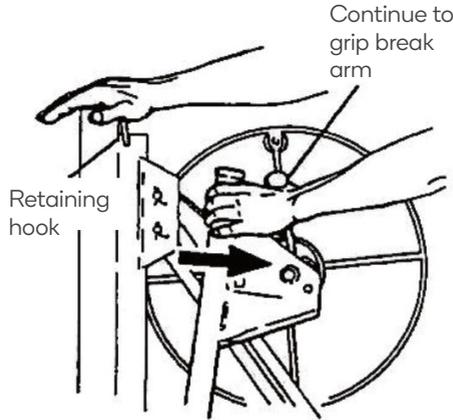

Figure 4
- b. Place one hand on top of the frame. Continue to grip the brake arm to prevent cable backlash and pull the winch assembly toward you (see Figure 4 below).